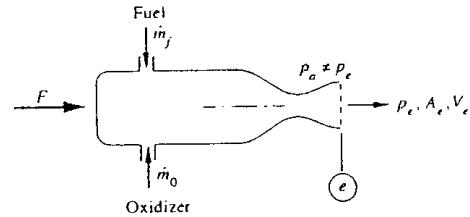

Fig. P3.68
- 3.68** The rocket in Fig. P3.68 has a supersonic exhaust, and the exit pressure  $p_e$  is not necessarily equal to  $p_a$ . Show that the force  $F$  required to hold this rocket on the test stand is  $F = \rho_e A_e V_e^2 + A_e(p_e - p_a)$ . Is this force  $F$  what we term the *thrust* of the rocket?